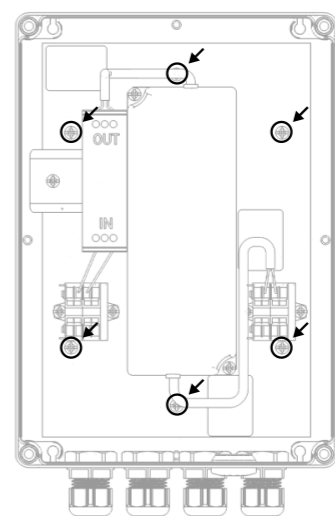

Figure 7: Fastening screws of the power supply unit
- Dismantle faulty power supply unit. To do this, unscrew the six fastening screws (Figure 7).